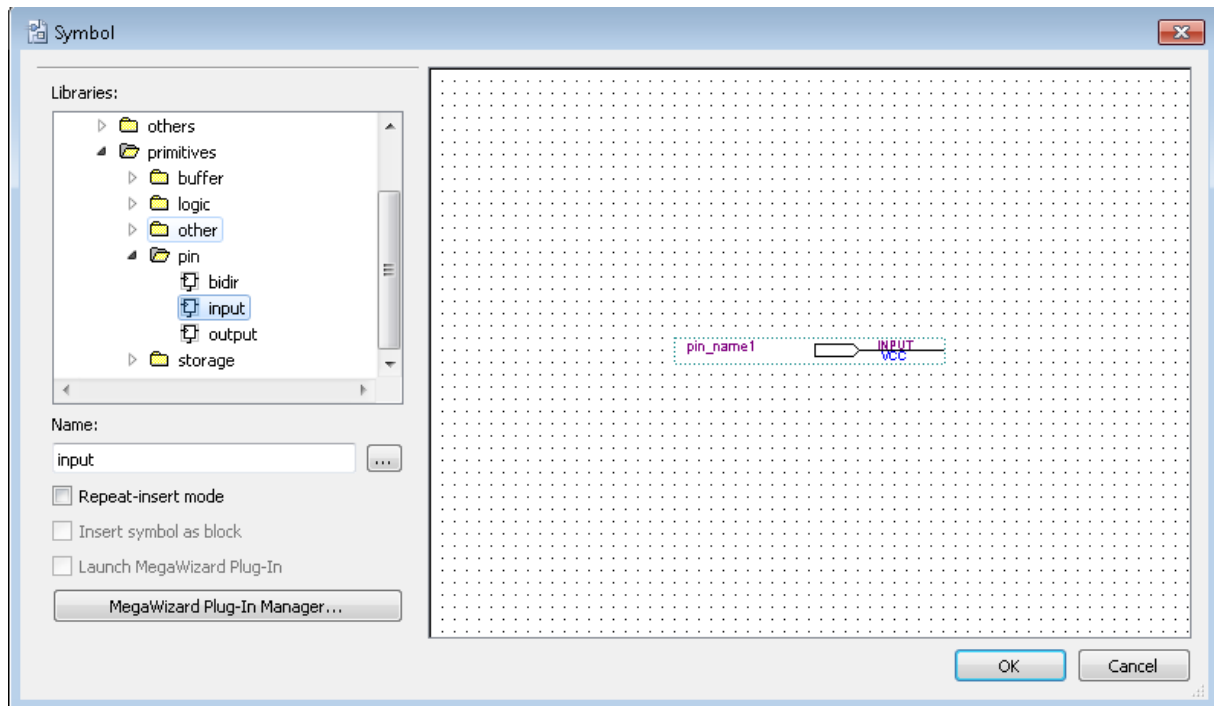

Figure 3-16 Input pin symbol
- b. Under Libraries, select quartus/libraries > primitives > pin > input. See **Figure 3-16**